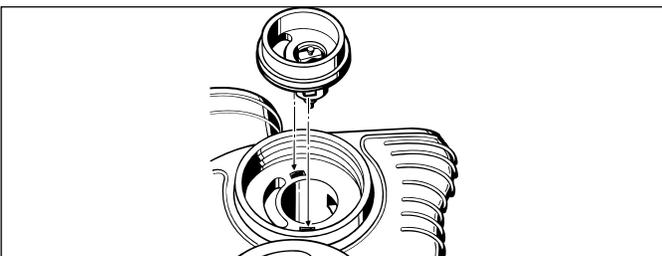

Figure 17
1.3.16 Place the stem of the valve core retainer inside the open port of the body, and gently align it so that the crescent shaped opening is centered above the crescent shaped recess of the body. Press the retainer evenly into place, so that both positioning tabs seat securely inside the slots of the body (see Fig. 17).